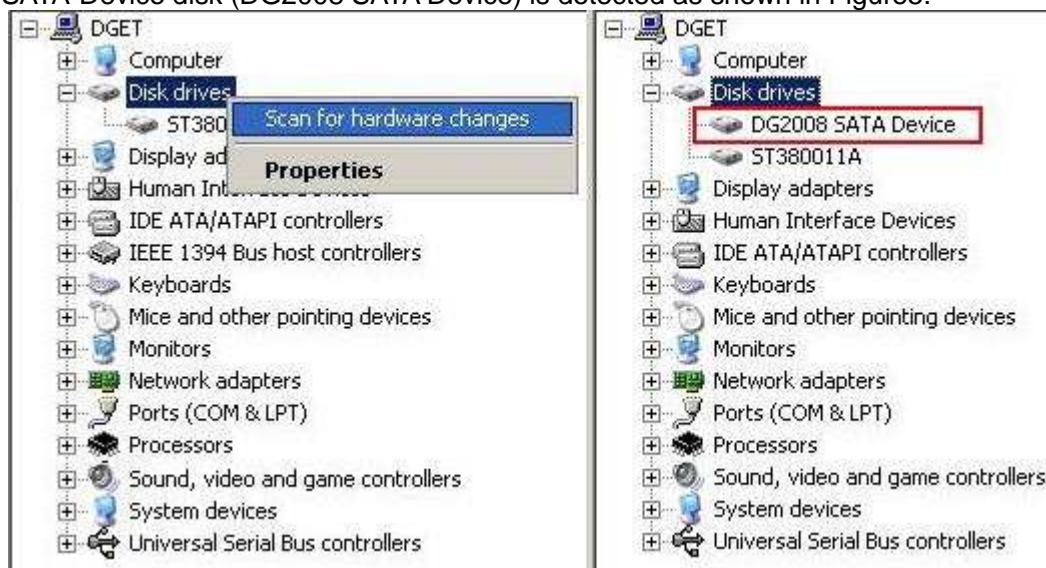

Figure5 Windows XP scan new disk
- New SATA-Device disk (DG2008 SATA Device) is detected as shown in Figure5.